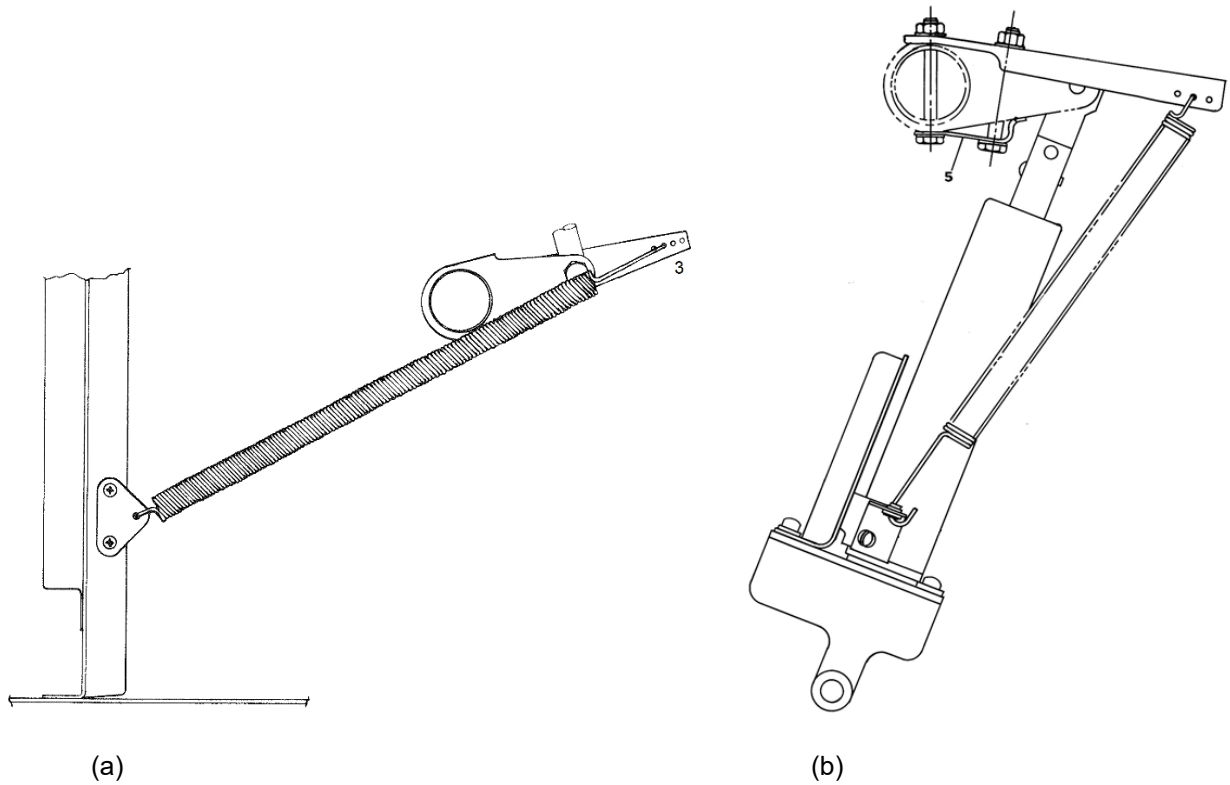
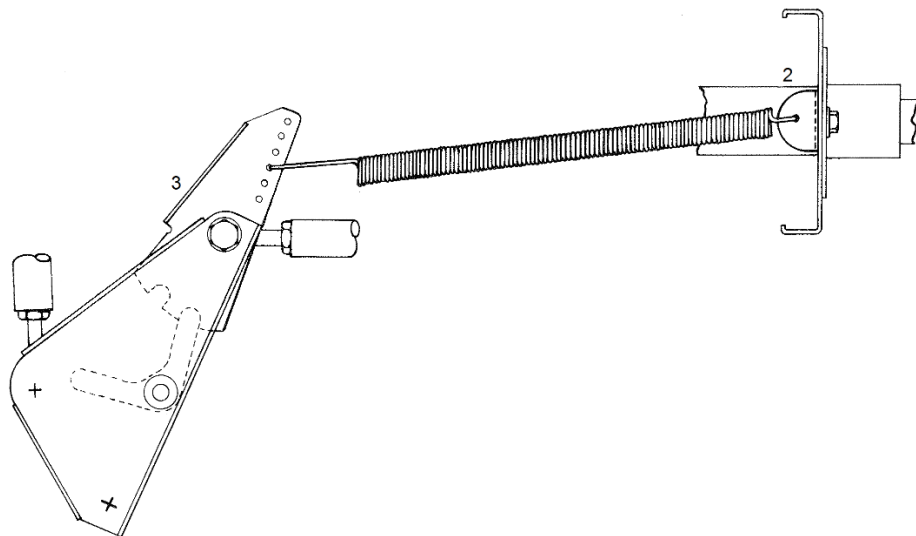

Figure 12-18. Lateral Bias Spring Installation
Figure 12-19. Longitudinal Bias Spring Installation
NOTE: The lateral bias spring installation is configured one of two ways. Helicopters certified to 2350 lb gross weight are configured as shown in Figure 12-18(a); Helicopters certified to 2600 lb gross weight (configured to Enstrom Specification Drawing 28-100015) are configured as shown in Figure 12-18(b).
A. Lateral Bias Spring Installation (Figure 12-18)
- (1) Attach spring (1) to bracket (2) and to the third hole from forward end of bracket (3).
- (2) Flight check the helicopter to see if the desired lateral trim forces can be obtained.
B. Lateral Adjustment (Figure 12-18)
- (1) Maximum left lateral trim is obtained by moving the spring outboard on bracket (3).
- (2) Maximum right lateral trim is obtained by moving the spring inboard on bracket (3).
C. Longitudinal Bias Spring Installation (Figure 12-19)
- (1) Attach spring (1) to bracket (2) and to the fourth hole from top of bracket (3).
- (2) Flight check the helicopter to see if the desired longitudinal trim forces can be obtained.
D. Longitudinal Adjustment (Figure 12-19)
- (1) Moving spring down on bracket (3) will provide maximum forward trim force.
- (2) Moving spring upward on bracket (3) will provide maximum aft trim force.